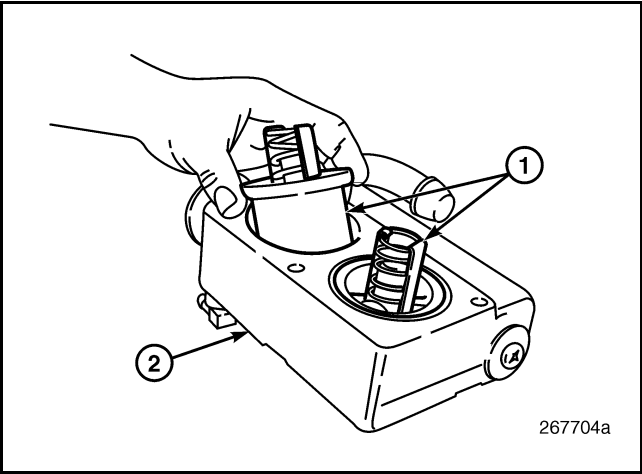

Figure 472 — Thermostat Positioning
3. Ensure the thermostat flange seal is in proper position on each thermostat (seal is an integral part of the thermostat) and place the thermostats in position in the housing bores with the valve spring up (Figure 472). Make sure that the thermostat flange seals are properly seated in the thermostat housing bore.